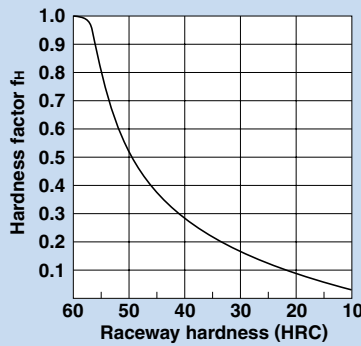

Fig. 1
- C : Basic dynamic load rating** (N)
- P_C : Calculated load (N)
- f_H : Hardness factor (see Fig. 1)